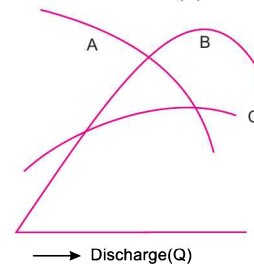

Fig. 5
299. The operating characteristic curves of a centrifugal pump are shown in Fig. 5, curve A is for
- 300.** Curve *B* in Fig. 5 is for
- 301.** Curve *C* in Fig. 5 is for